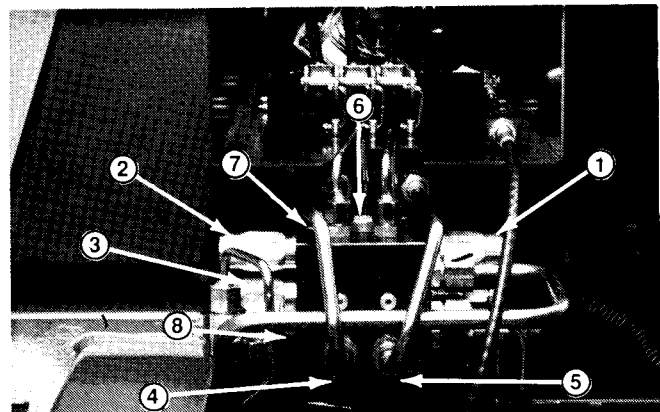

Figure 15
3. If pressure is too high or too low, remove cap and adjust the counterbalance relief valve screw until correct pressure is attained (Fig. 15).
4. If pressure is too high or too low, remove cap and adjust the "traction plus" relief valve screw until correct pressure is attained (Fig. 15).
4. If shift pressure is too high or too low, remove cap and adjust the shift cartridge screw until correct shift pressure is attained (Fig. 15).